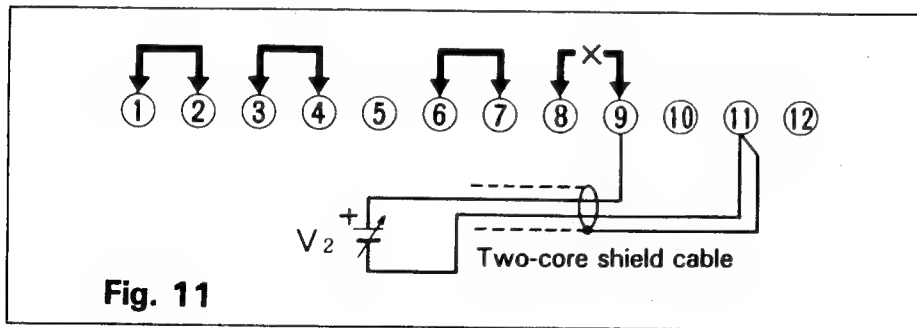

Fig. 11
- 2) Remove the short bar ⑧ - ⑨ and connect external voltage  $V_2$  across ⑨ and ⑪ as shown Fig. 11. Be very careful about the polarity.